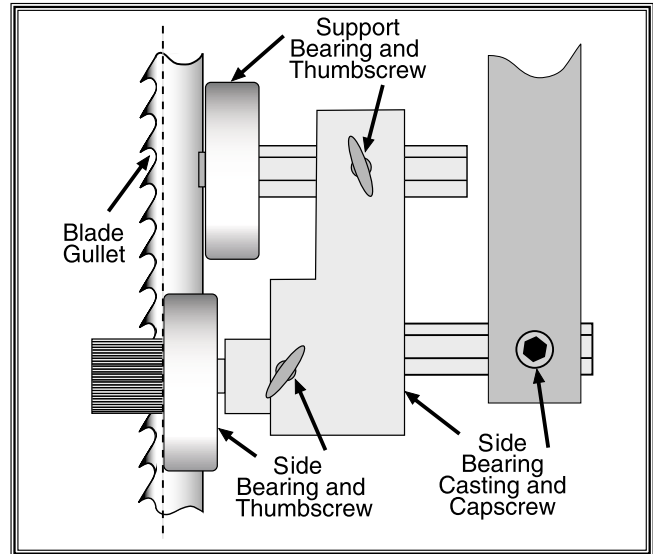

Figure 17. Blade guide assembly.
The side bearings keep the blade from wandering from side-to-side. These bearings support the blade just behind the blade gullet from tracking off center when hard and soft areas are cut in the wood. See **Figure 17**.
2. Loosen the side-bearing capscrew. See **Figure 17**.
3. With the side bearing eccentrics fully seated against the casting, slide the casting so the side bearings are positioned just behind the blade gullet (see **Figure 17**) and retighten the capscrew.
4. Loosen the thumbscrew that allows the side bearing eccentric to rotate. See **Figure 17**.
6. Loosen the support bearing axle thumbscrew. See **Figure 17**.
4. Loosen the guide bearings by turning the thumbscrews (**Figure 17**) counterclockwise and retract the guide bearings away from the blade.